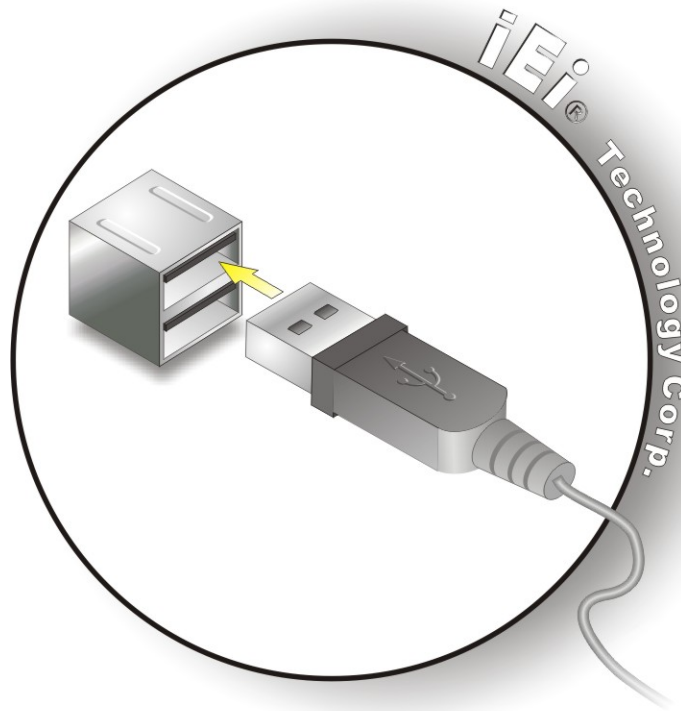

Figure 3-25: USB Device Connection
Step 2: **Align the connectors.** Align the USB device connector with one of the connectors on the bottom panel. See **Figure 3-25**.